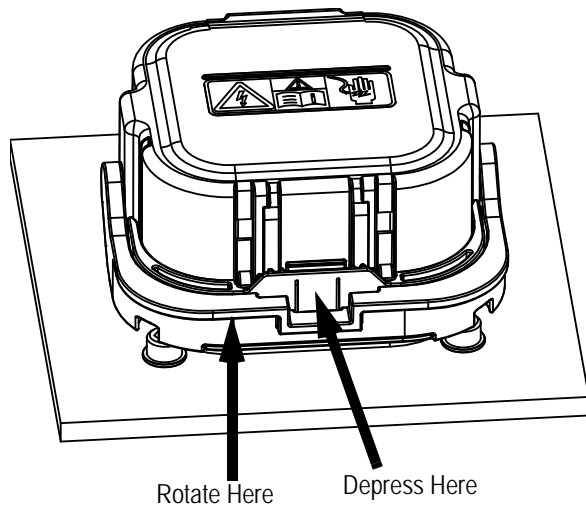

Figure 7
1. Depress the lever release latch firmly. With the latch fully depressed, rotate the lever upward and away from the pack as shown in Figure 7.